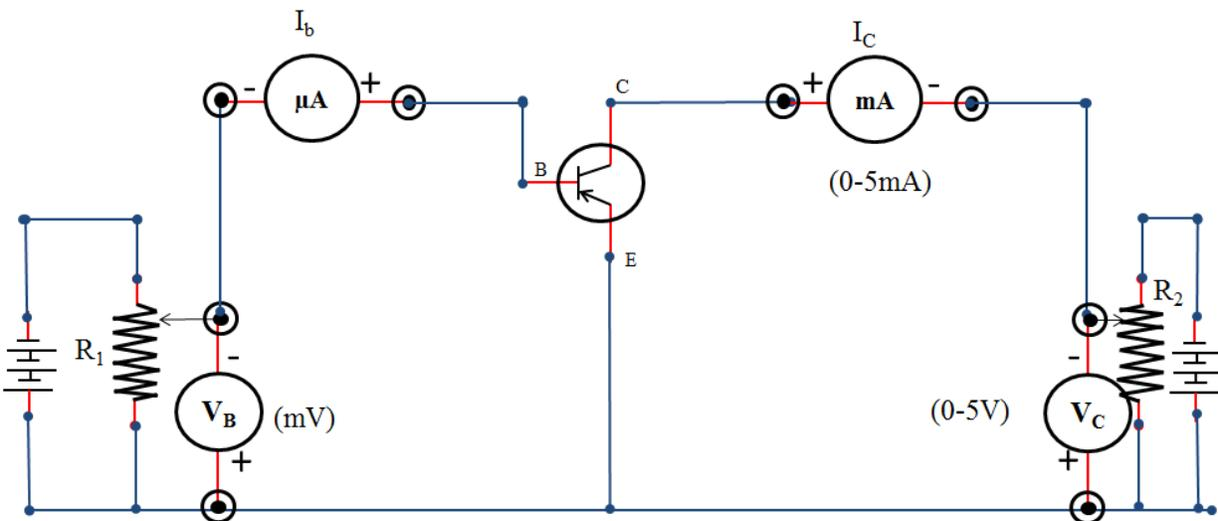

Figure 4. Circuit diagram for common emitter arrangement
- (i) Make the connections as shown in figure 4.